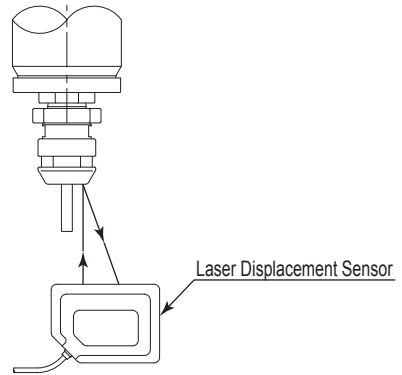

Fig. 15
- * After installing the Collet Holder to the Spindle, the Collet Holder alignment can be checked utilizing a Laser Displacement Sensor as illustrated in Fig. 15.